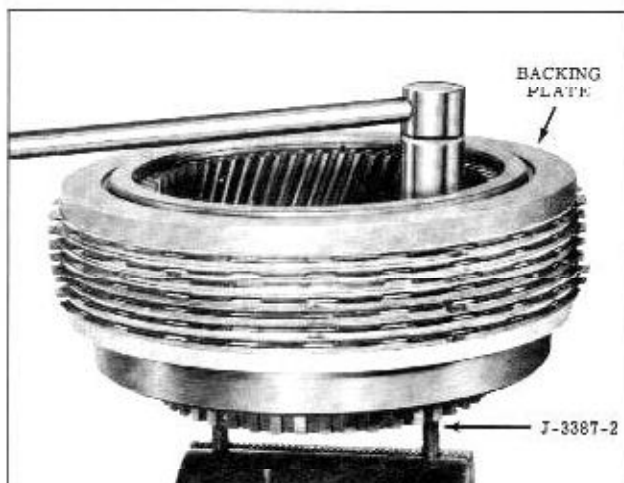

Fig. 3-83 Front Clutch Disassembly
3. Install front clutch assembly with studs into vise so that studs are retained by the vise jaws. (Fig. 3-83)